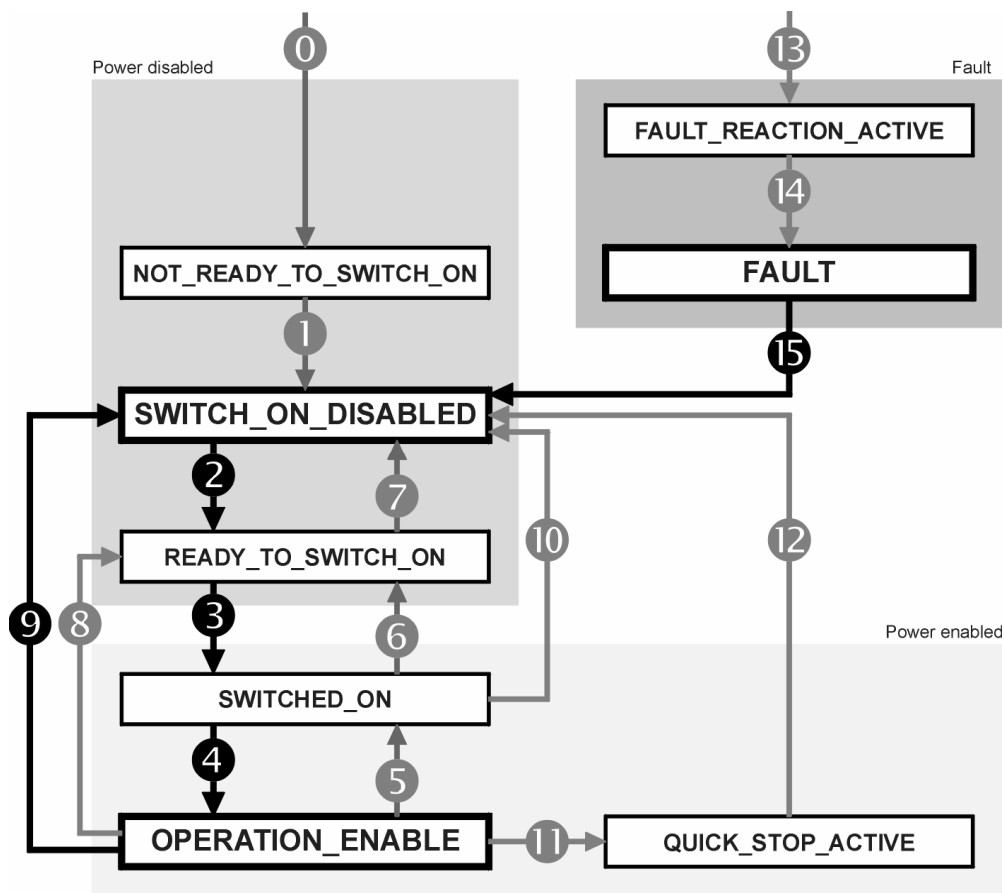

Figure 7.11: State diagram of the servo controller
- 3.) In accordance to the state diagram (Figure 7.11) the state transitions 2, 3 and 4 have to be executed.